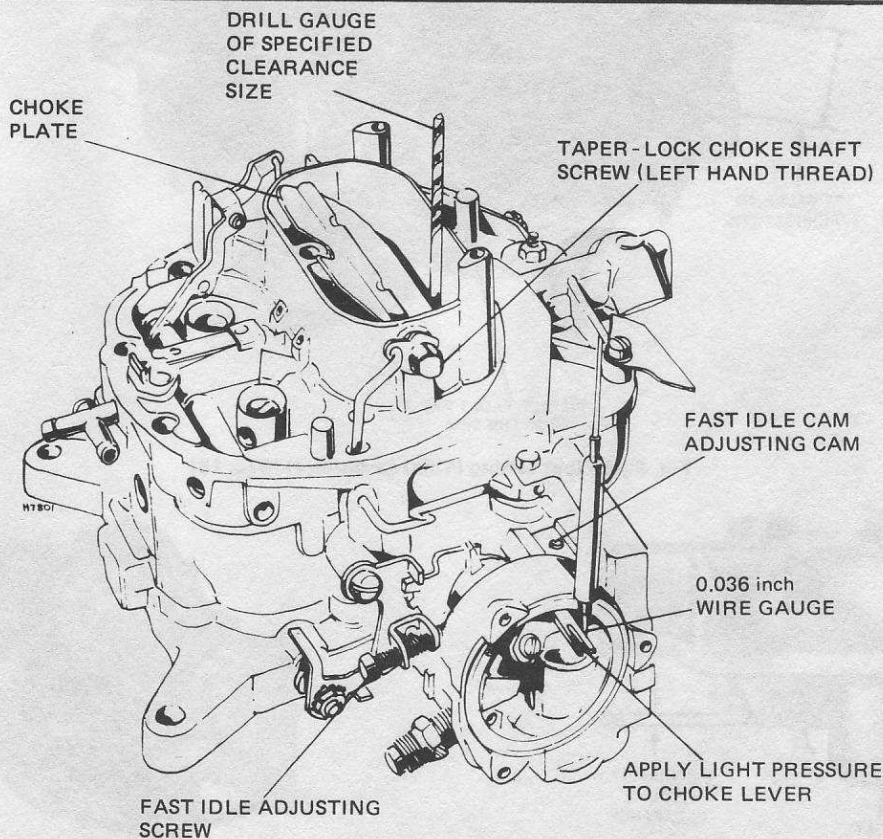

Fig. 3.33 Choke plate pulldown and fast idle cam adjustment (4300 carburetor) (Sec. 16)
- 5 Bend a wire gauge of 0.036 in diameter at a 90° angle approximately  $\frac{1}{8}$  in from one end. Block the throttle about half open so that the fast idle cam does not contact the fast idle adjustment screw, then insert the bent end of the wire gauge between the lower edge of the piston slot and the upper edge of the right-hand slot in the choke housing (see Fig. 3.33).
- 11 Position the fast idle speed adjusting screw on the kickdown (center) step of the fast idle cam and check the clearance between the lower edge of the choke plate and the air horn wall. Turn the fast idle cam adjusting screw inward to increase, or outward to decrease, the clearance (see Fig. 3.33).